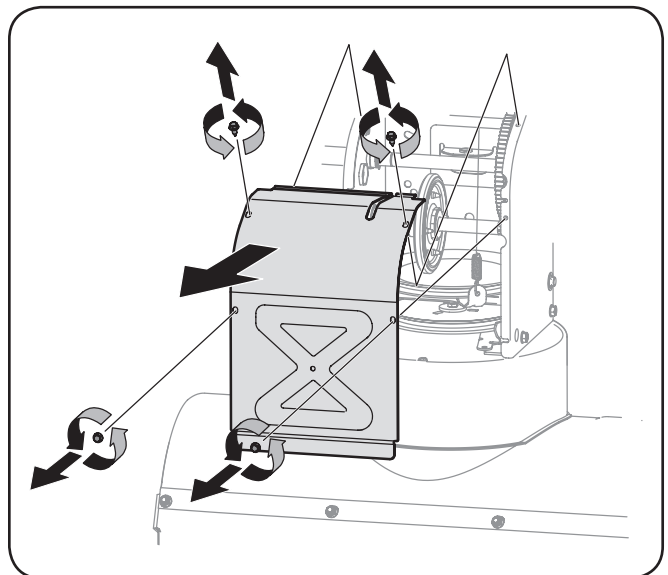

Figure 7-3
3. Remove the frame cover from the underside of the snow thrower by removing the self-tapping screws which secure it. Refer to Figure 7-3 on page 19.
5. Remove the frame cover from the underside of the snow thrower by removing the self-tapping screws which secure it. See Figure 7-3.
- Remove the frame cover from the underside of the snow thrower by removing four self-tapping screws which secure it. Refer to Figure 7-3.